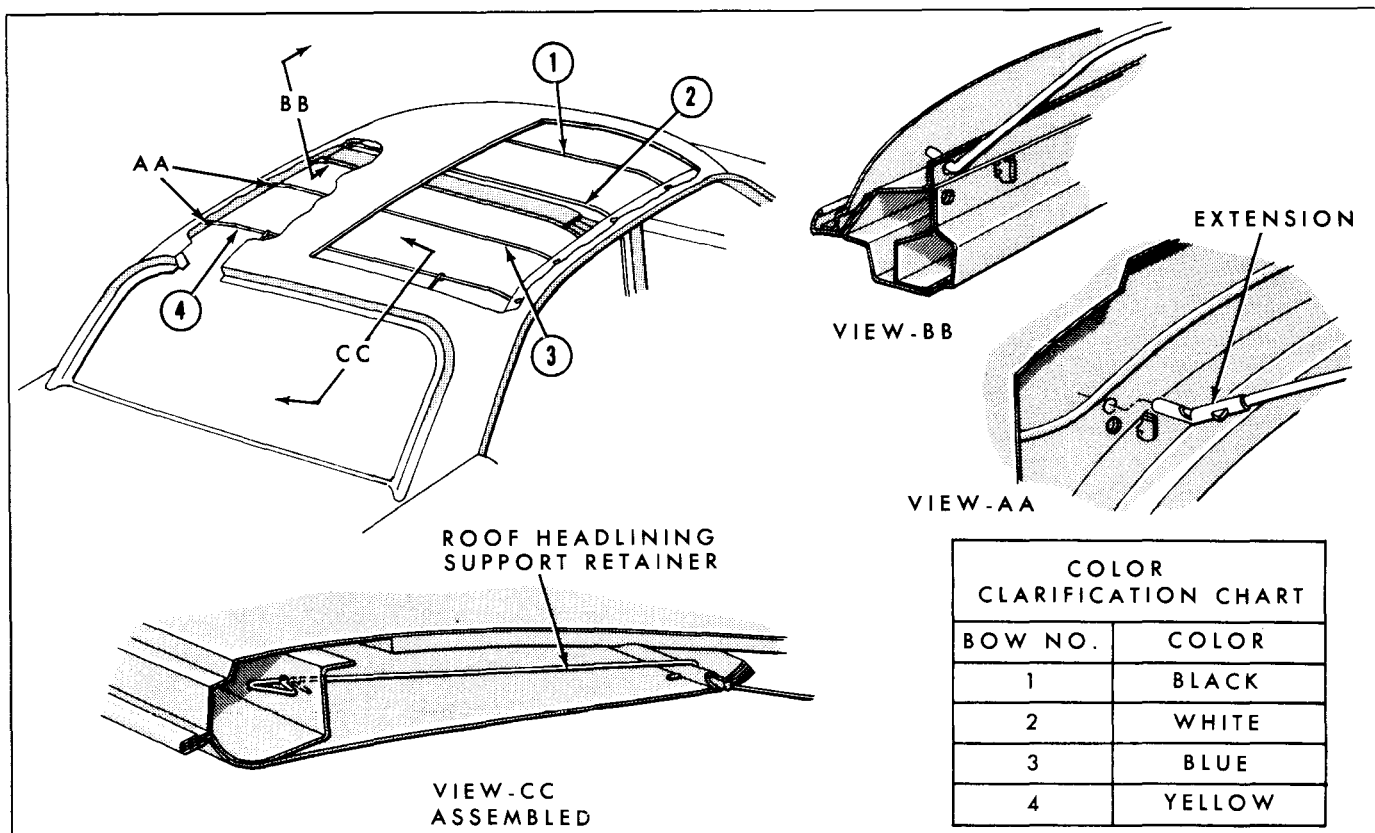

Fig. 13D-4—Roof Bow Color Chart—Models 54, 62—(60C-8060)
14. Starting at the windshield header and working toward the rear, pry the roof bows out of the retainers. Remove the two rear headlining support retainers. Remove the headlining assembly with roof bows. **The roof bows are of different lengths and are marked as shown on the Roof Bow Color Chart, figure 13D-4. If identification is lacking on the roof bows, mark each bow to assure proper installation of the bows on the headlining.**
1. Insert the roof bows into the listings of headlining. Refer to the Roof Bow Color Chart, figure 13D-4, to make sure each bow is in its proper listing.
2. Starting at the rear of the body, insert the cut-off end of the rear (No. 4) bow into the roof headlining support extension. See figure 13D-4. Insert bow into retainers on the roof side rail. Install the two headlining rear support retainers. See figure 13D-4.